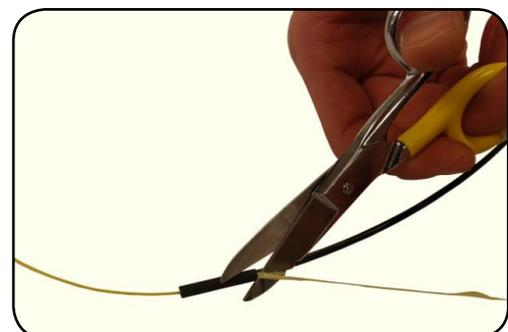

Figure 11
**Step 11:** Allow the glue to dry, and then trim the excess Kevlar strength members behind the heatshrink (**Figure 11**).